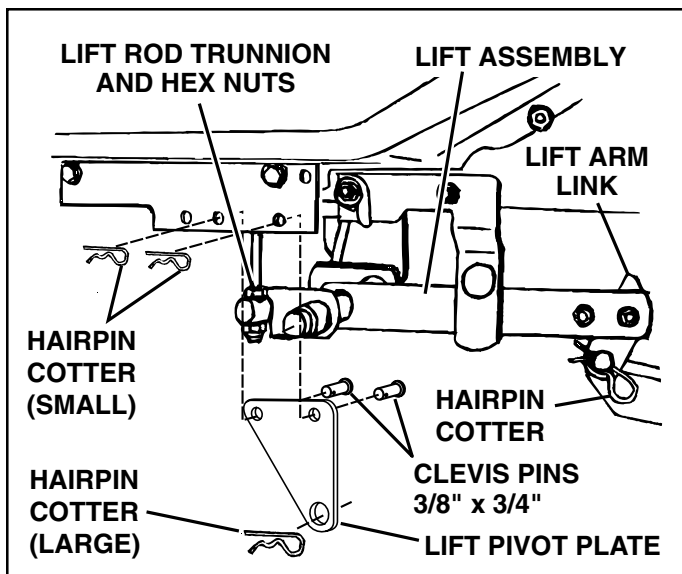

FIGURE 32
2. Refer to figure 32 below and;
- D. Remove lift rod trunnions and hex nuts from each lift link rod. See Figure 32 and figure 16 on page 7.
Frame Brackets do not require removal for re-assembly of mower deck. See figure 32.